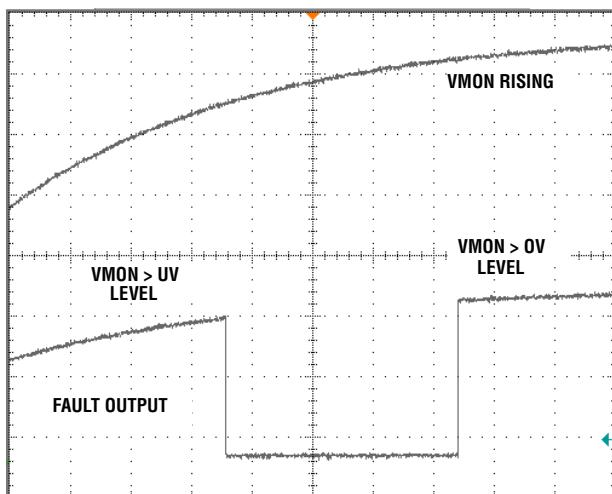

FIGURE 6. VMONITOR RISING TO FAULT
**VMONITOR** ramping up and down through the **UV** and **OV** levels will result in the **FAULT** output signaling the out of bound conditions by being released to pull high to the **VHI** voltage as shown in Figures 6 and 7.